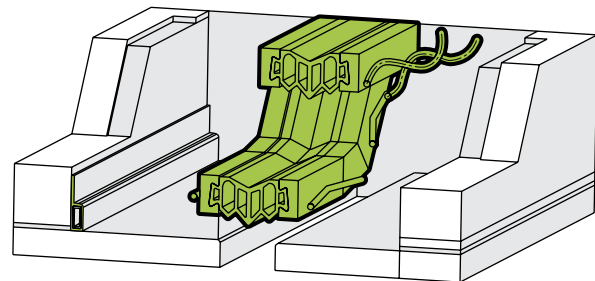

Fig. 2 : Details of section upstand.
- end section upstands - figure 2;